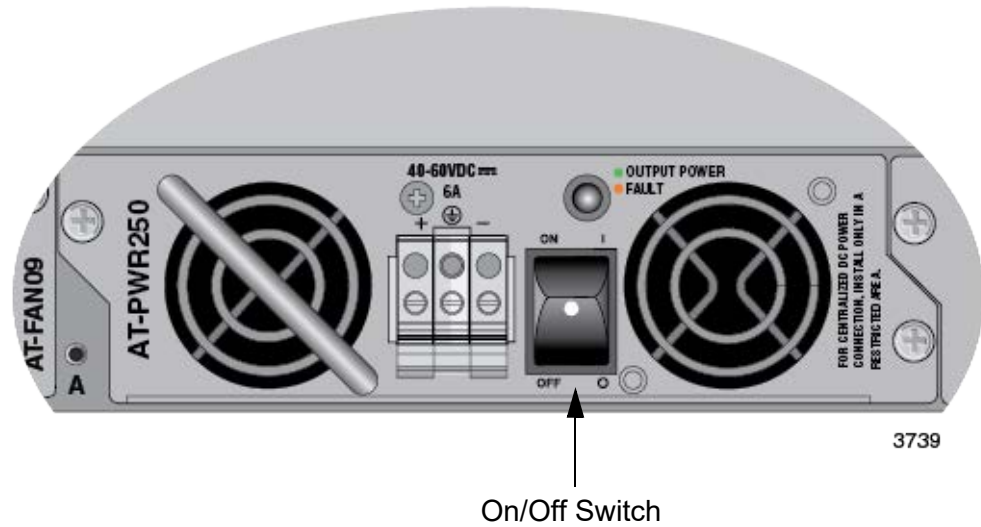

Figure 55. On/Off Switch on AT-PWR250-80 Power Supply
2. Verify that the On/Off switch on the power supply is in the Off position. Refer to Figure 55.